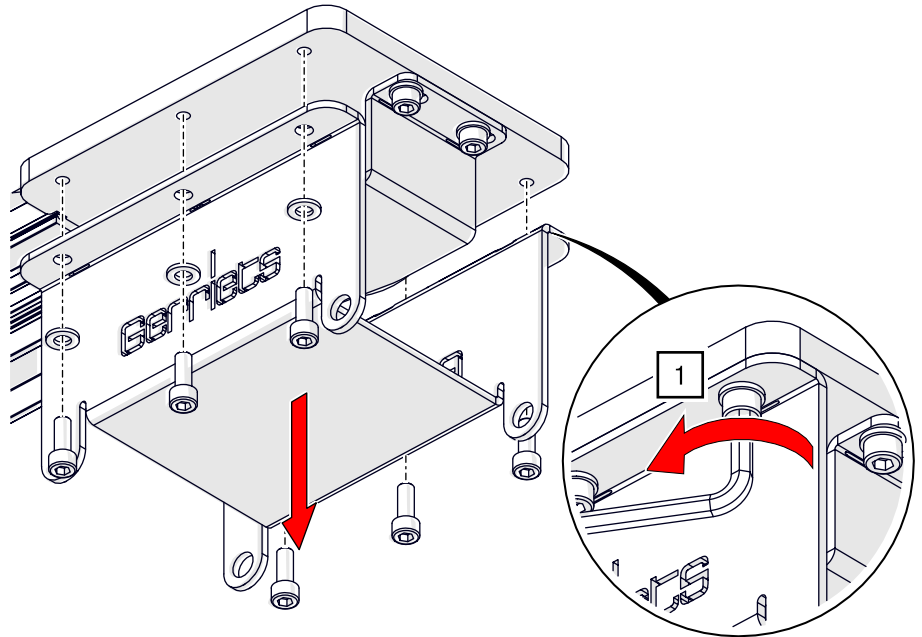

Fig. 77: Timing belt installation – Open housing of the deflections
1. Open the housings of all deflection units by loosening the socket head screws with an Allen key AF 5 / 8 and set the cover plates aside (see Fig. 77).